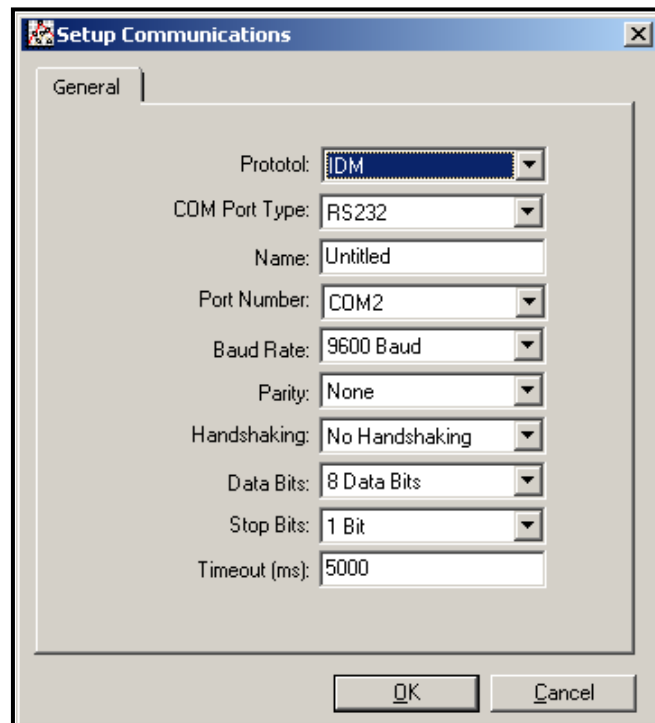

Figure 34: Setup Communications Screen
5. Click on the *Communications Port* option to select it. The *Setup Communications* screen appears similar to Figure 34.